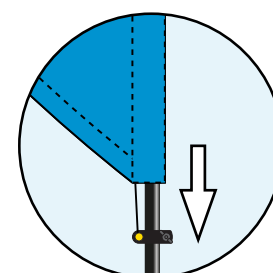

Fig 8.
7. Insert the yellow button on the end of the rope into the cleat on the pole, slide down the pole to tension the flag and tighten the wingnut. (Fig 8)